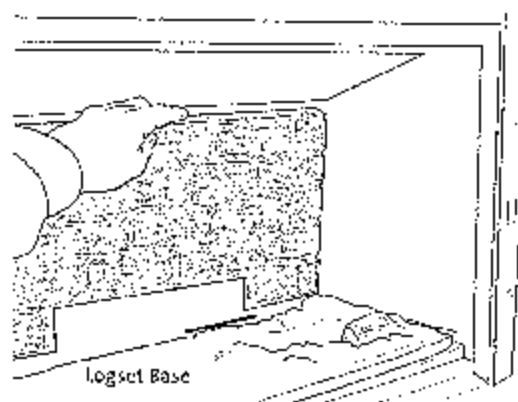

Figure 19. Install Lower Rear Panel.
- 3. Install the Lower Rear Panel.** Orient the panel so that the cutout is at the bottom. Engage the bottom edge between the rear wall and the firebox base. See Fig. 19.